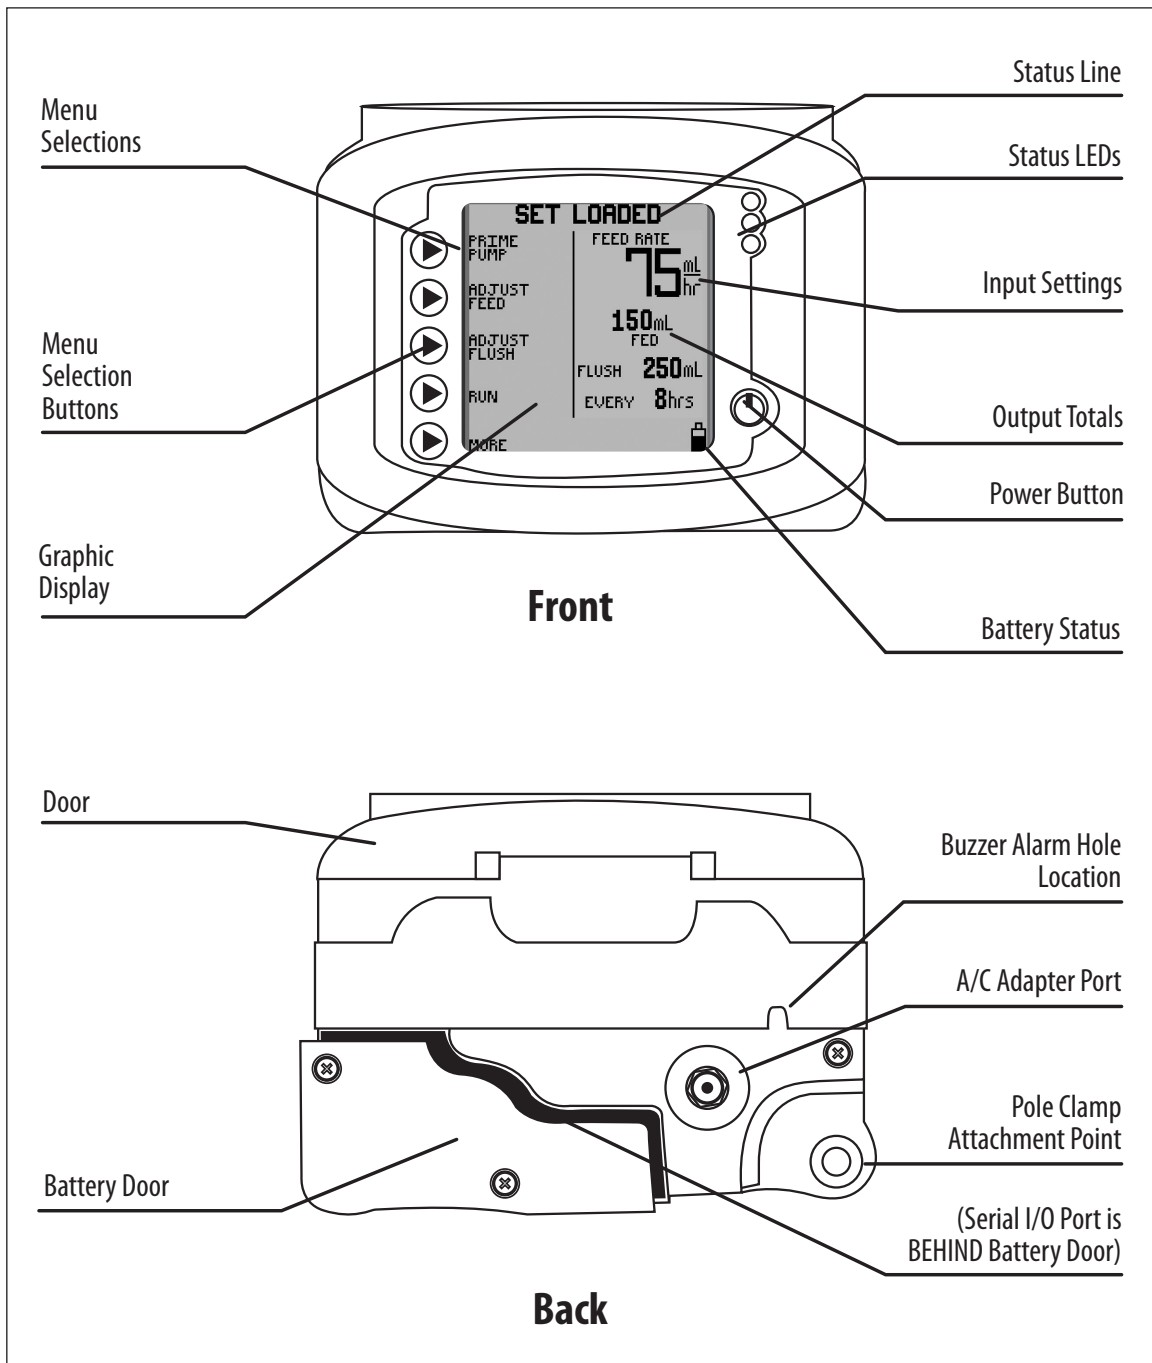

Figure 1A. Kangaroo Joey enteral feeding pump features, front and rear views.
13. **Warning:** The serial I/O port (see Figure 1A) is intended only for use by the manufacturer or trained service technician.
Plug the A/C Power Adapter (Part Number 383491) into the A/C adapter port on the back of the pump. See Figure 1A to locate port on pump.